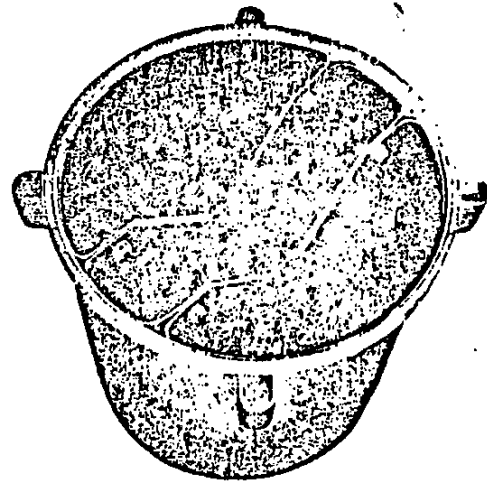

Fig. 4 Circuit-breaker tank showing tank lining and oil level
- Fig. 4 Circuit-breaker tank showing tank lining and oil level